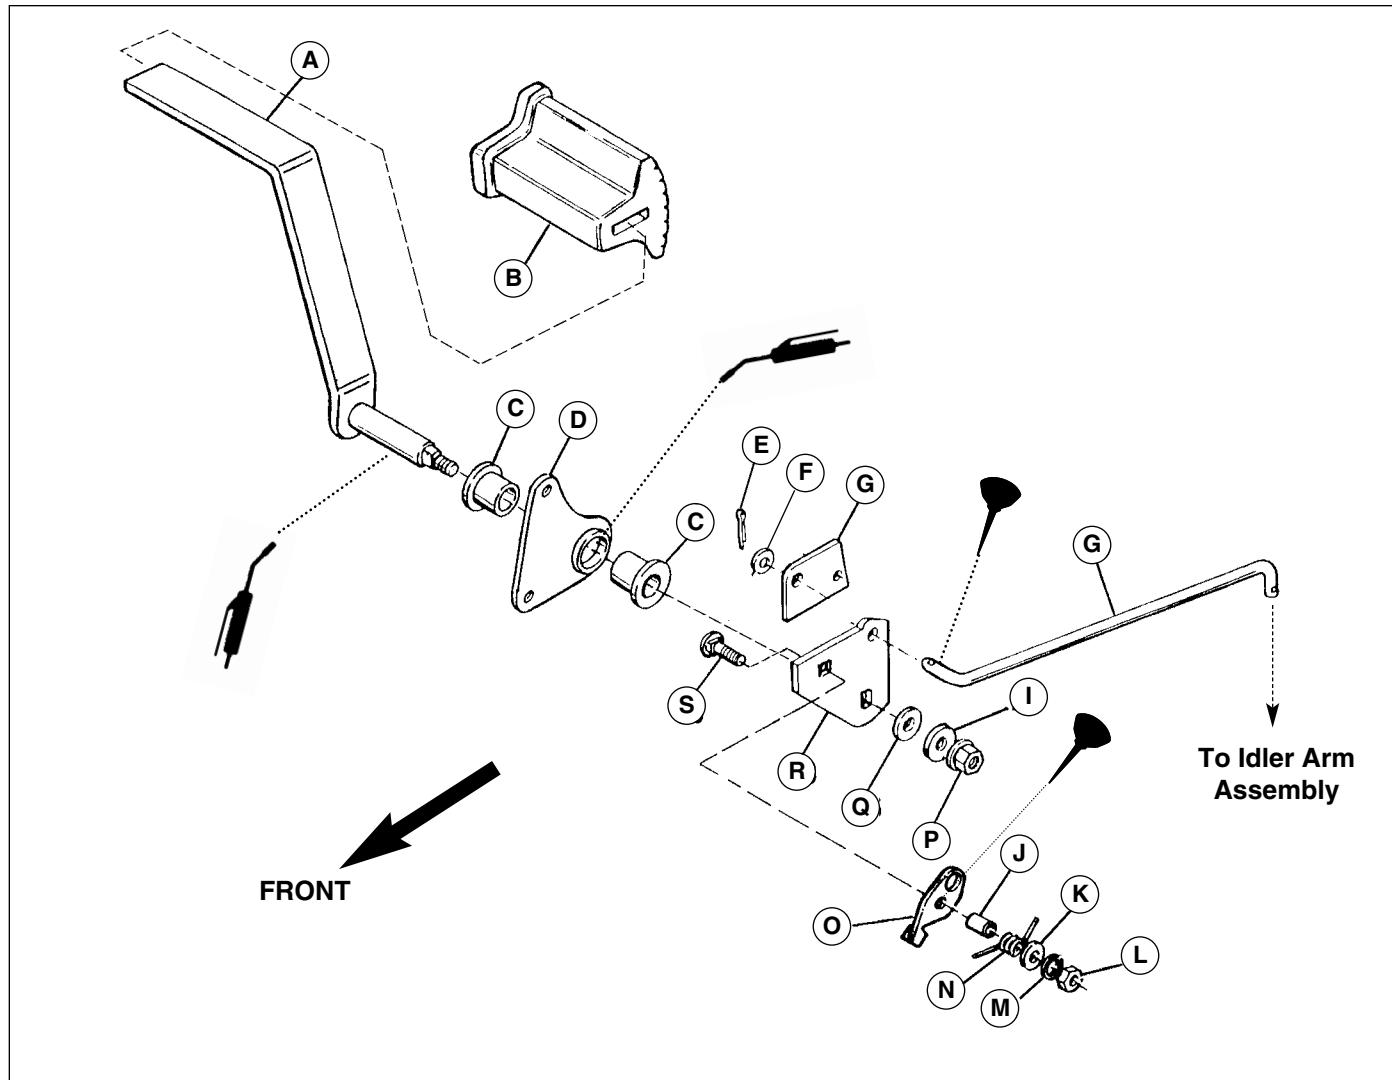

Figure C-11. Broadmoor Hydro Foot Control - Brake Pedal Assembly Parts - Hydro-Gear 0750 / 0800
Refer to Figures C-11 through C-13 for transmission-specific parts breakdowns.
8. If no additional service is to be performed, reassemble remaining parts in reverse order of disassembly. See Figures C-11 through C-13 for correct parts positioning after reassembly, and check for proper operation of brake pedal assembly parts. If additional service in this area is required, continue to next section.